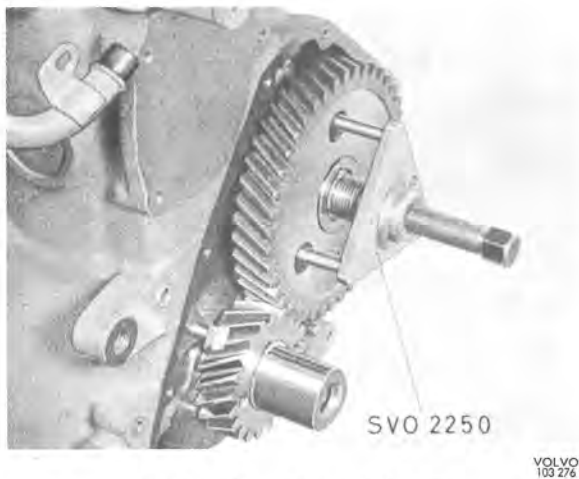

Fig. 2-40. Removing camshaft gear
4. Remove the camshaft nut and pull off the camshaft gear with puller SVO 2250, see Fig. 2-40.